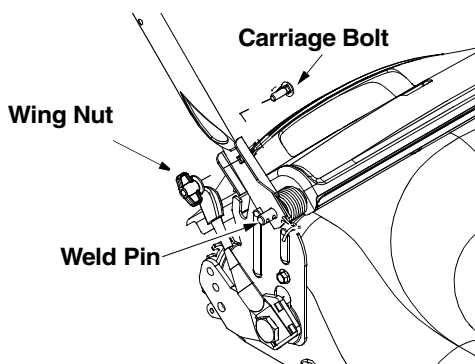

Figure 4
- For shipping purposes, the hairpin clip is placed in the outer hole of the weld pin on the lower handle. Remove the hairpin clip from the outer hole of the weld pin. See Figure 4.
- Using a pair of pliers, insert the hairpin clip into the inner hole on the weld pin. Repeat on other side. See Figure 4.